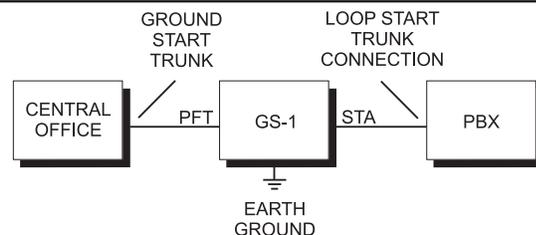

Figure 3 Installation with Loop Start PBX Systems.
3.12 INSTALLATION WITH LOOP START PBX SYSTEMS Refer to Figure 3 when reading this section. The GS-1 can be used to allow connection of CO ground start trunks to PBX systems that are compatible only with CO loop start trunks. The GS-1's PFT connections connect with the CO ground start trunks, and the GS-1's STA connections connect with the PBX's loop start trunk ports.